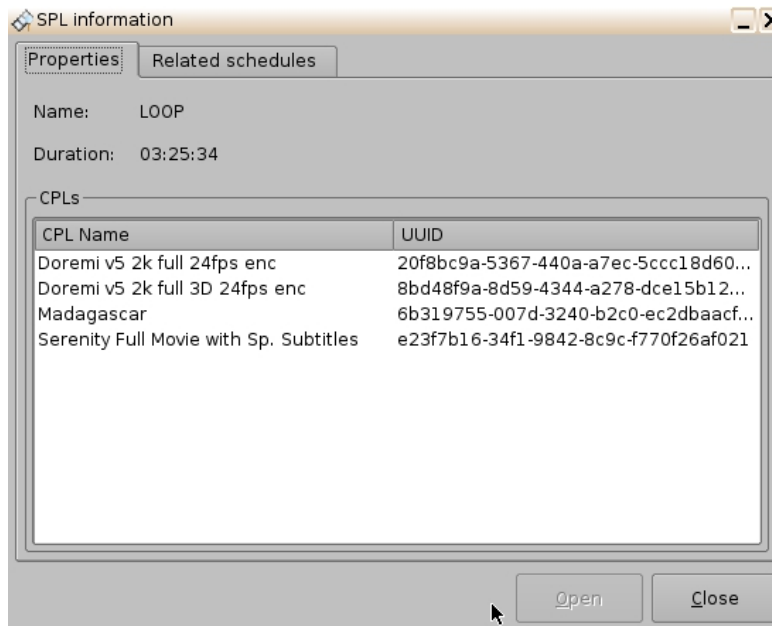

Figure 68: SPL Information Window - Properties Tab
- The SPL information window will appear. Each SPL in this list contains the CPL that information is sought for (Figure 68):